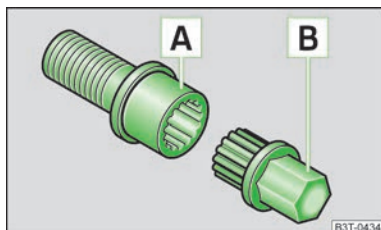

Fig. 159
- Insert the adapter **B** » Fig. 159 with its toothed side fully into the inner tooth- ing of the safety wheel bolt **A** until the stop so that only the outer hexagon is jutting out.